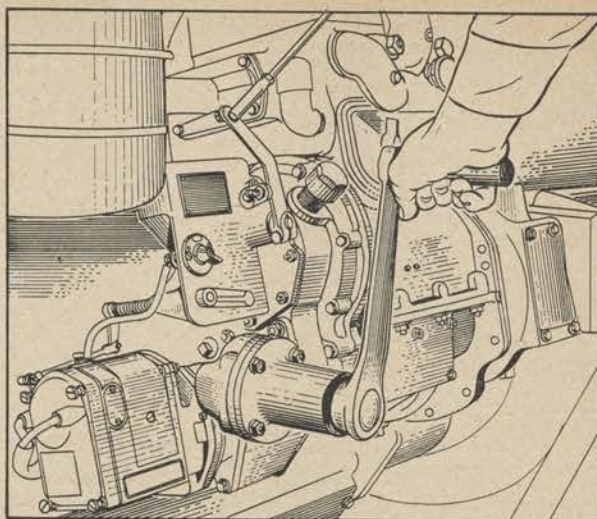

Figure 70. Correct position for cranking starting engine.
(3) Insert the crank in the starting engine as shown in figure 70. If the engine is cold, move the manual spark control lever (1, fig. 60) to the ADVANCE position. If the engine is warm, move the lever to RETARD position. Grasp the crank with the right hand. Turn the starting engine magneto switch (2, fig. 60) to the ON position.
(4) Crank the starting engine until the compression stroke is reached; pull forward slowly from the top of the crank circle, then to start: pull the crank through the compression strokes with a rapid motion. *Do not spin the crank.*